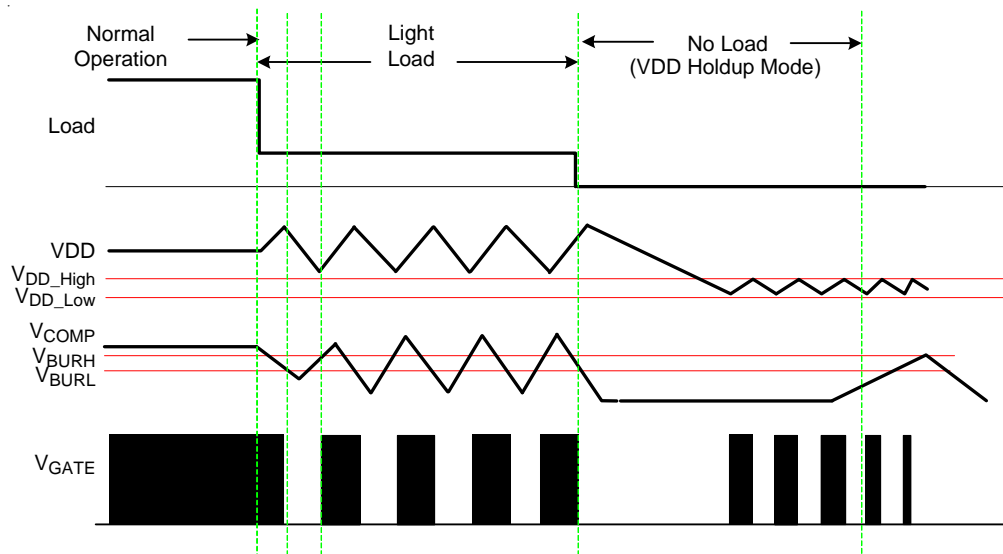

Figure 3. Burst Triple-Mode
To fulfill green mode requirement, there are 3 operation modes in RT7730. Please also refer to Figure. 3 for details.
- **Burst Mode** : During light load, switching loss will dominate the power efficiency calculation. This mode is to cut switching loss. As shown in Figure 3, when